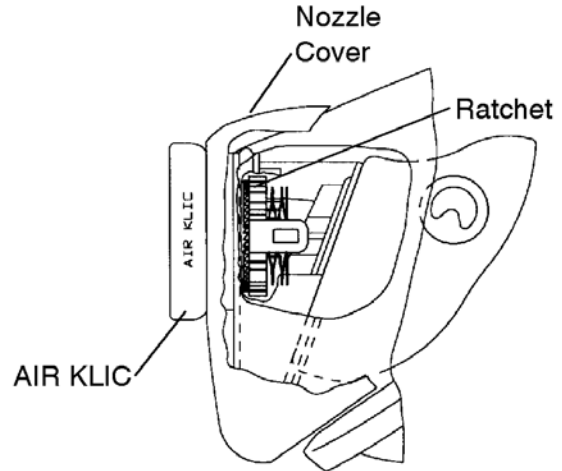

Figure 1. AIR KLIC Removal
1. Insert your finger into the AIR KLIC to press the ratchet down while unscrewing the AIR KLIC. See Figure 1.